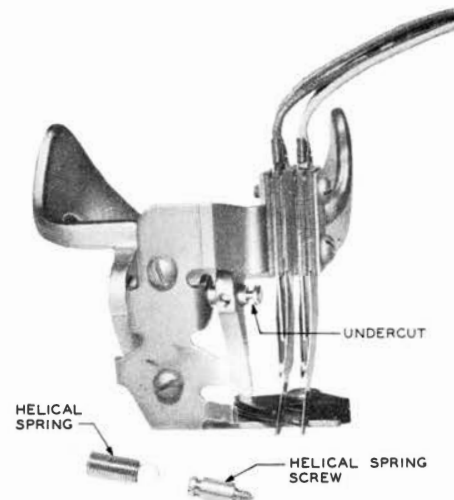

FIG. 2—SWITCHHOOK ASSEMBLY
- When reassembling, care should be taken to be sure the undercut in the pin is assembled so that the screw for the helical spring engages with the undercut (see Fig. 2).